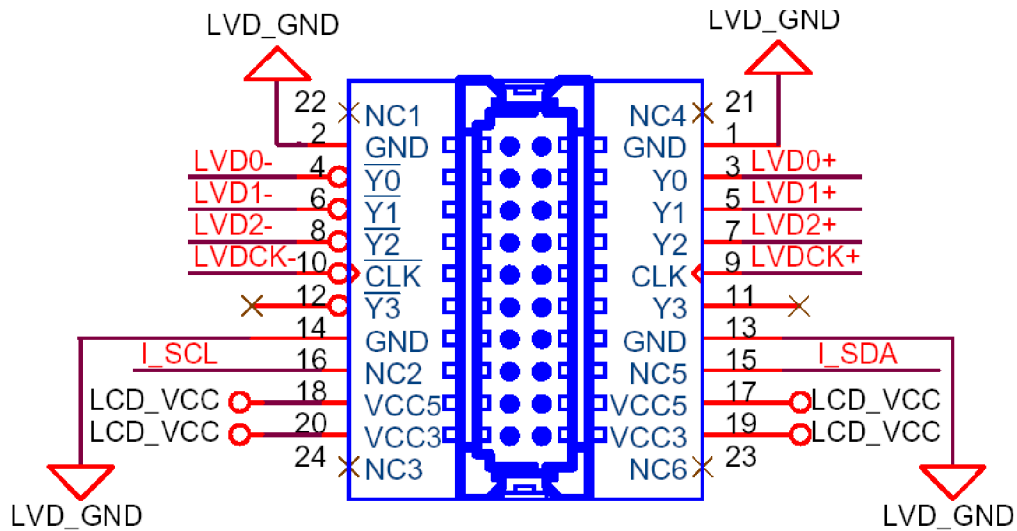

Figure 4-18: TFT LCD LVDS Connector Pinout Locations
- CN Location:** See Figure 4-18